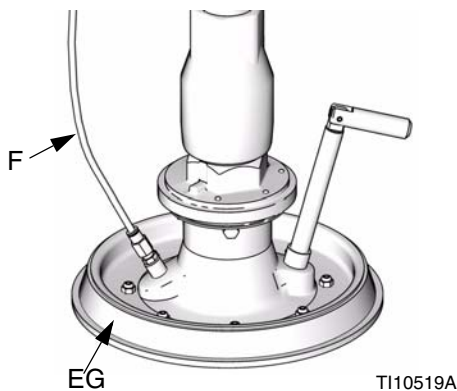

FIG. 10
See FIG. 10. If the platen does not come out of the pail easily when the pump is being raised, the air assist tube (F), or check valve may be plugged. A plugged valve prevents air from reaching the underside of the plate to assist in raising it from the pail.
2. Clear air assist tube (F) in platen. Clean all parts of valve and reassemble.